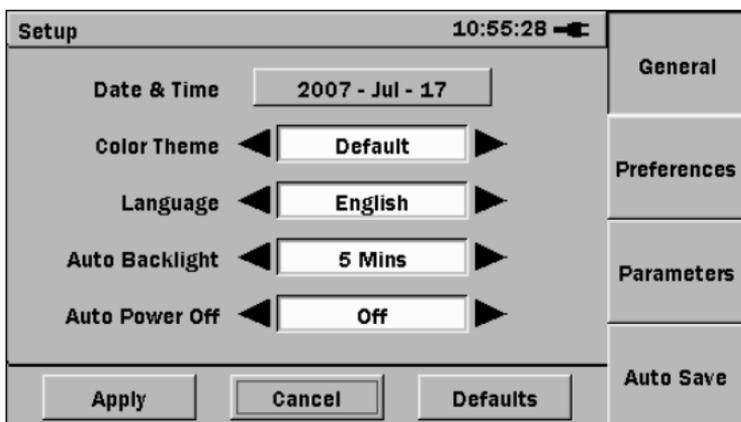

Figure 3-10: General Setup screen - accessed from the Fault Locate application
2. Press **General (F1)**, the General Setup screen appears (see Figure 3-10).